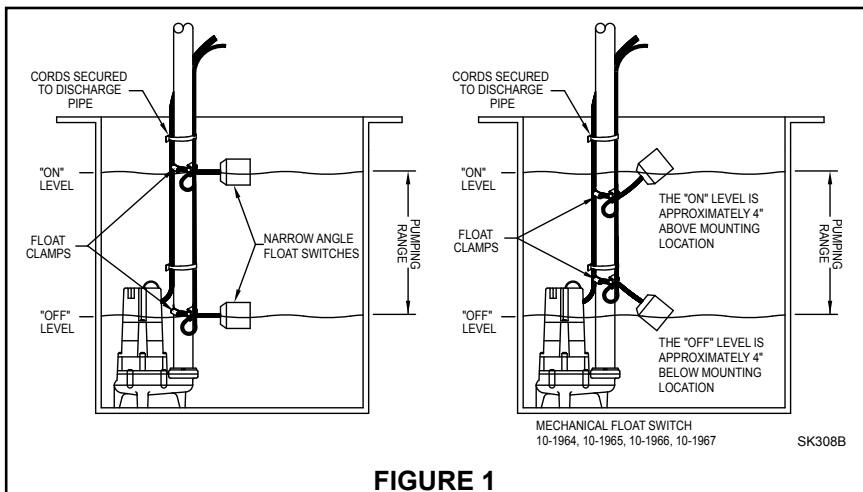

FIGURE 1
- Decide the desired pumping range for your installation. (See Fig. 1.)
- Securely tape or clamp both piggyback switch cord and pump cord to the discharge pipe, clear of float operation. (See Fig. 1.) Excess cord should be coiled and fastened to the discharge pipe.